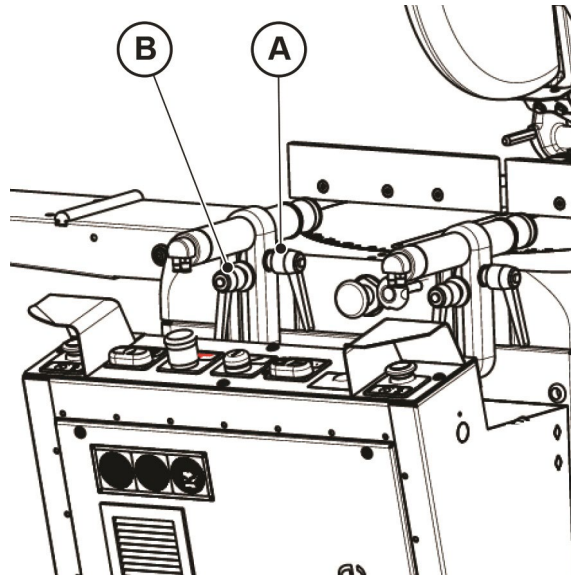

Fig. 07-05
- 1 Loosen the release handle "A" (**Fig. 07-05**) to adjust the distance from the profile.
- 2 Loosen the release handle "B" (**Fig. 07-05**) to adjust the vice unit both vertically and laterally.